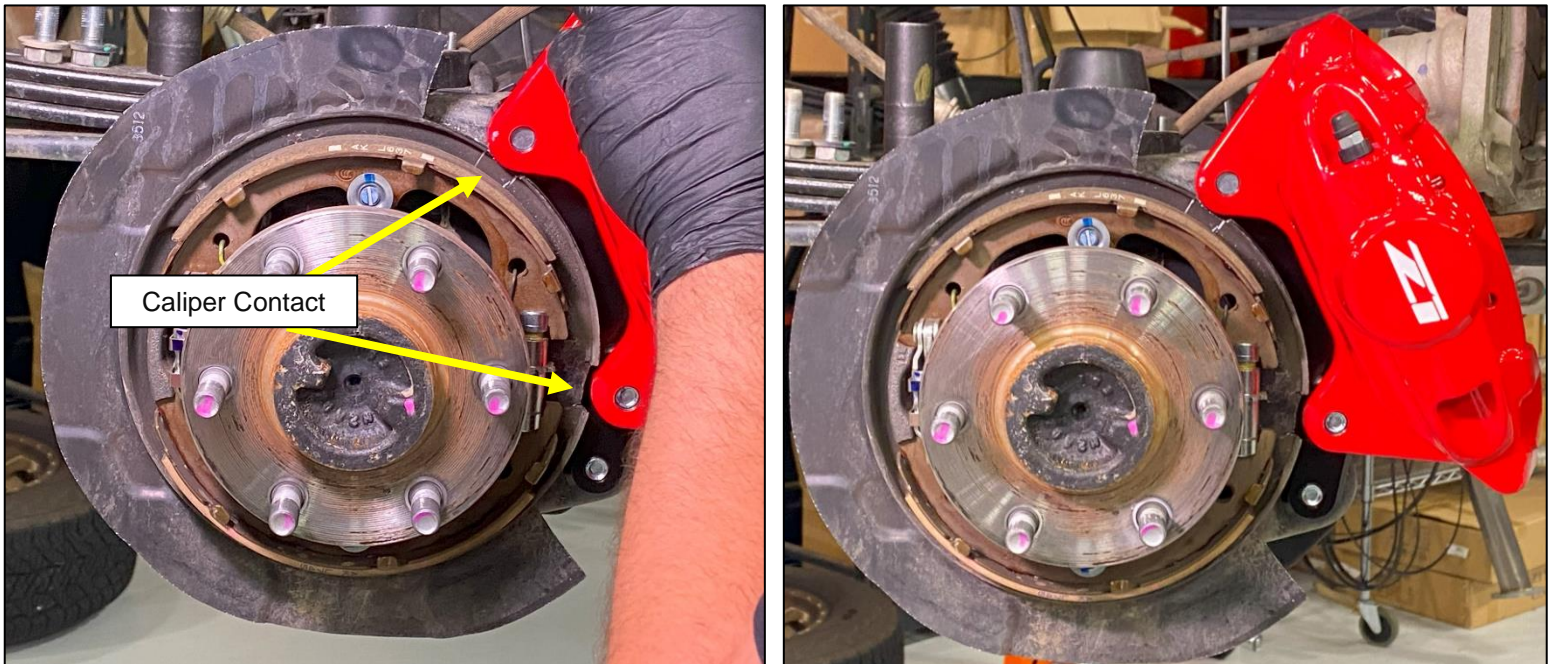

Figure 8
11. Using the Caliper Bracket Assembly and (1) one M12 x 1.25 Flange Head Bolt, 20mm, test fit the Caliper to the mounting point. More of the Brake Shield will need to be trimmed, mark and clearance any points of contact. *Figure 8*.